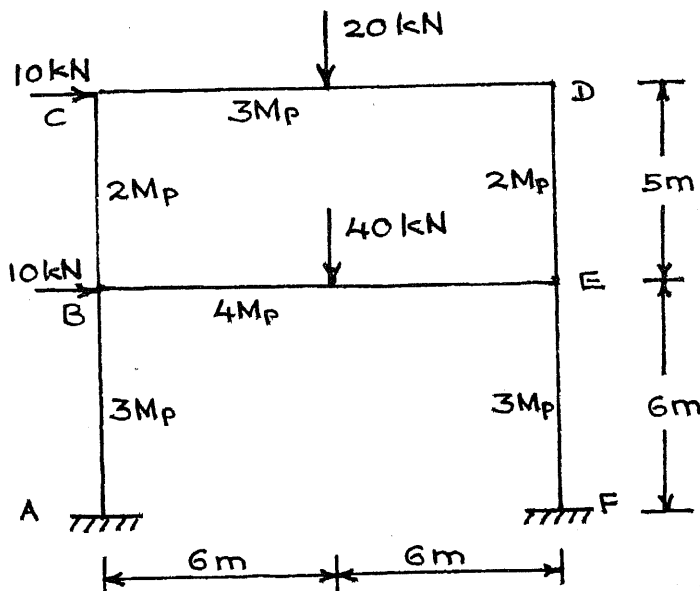

Fig. Q-6
6. Analyse the two-storey portal-type structure shown in Fig.Q-6 using Plastic analysis and determine the plastic moment  $M_p$ . Use a load factor of 2. (20 marks)